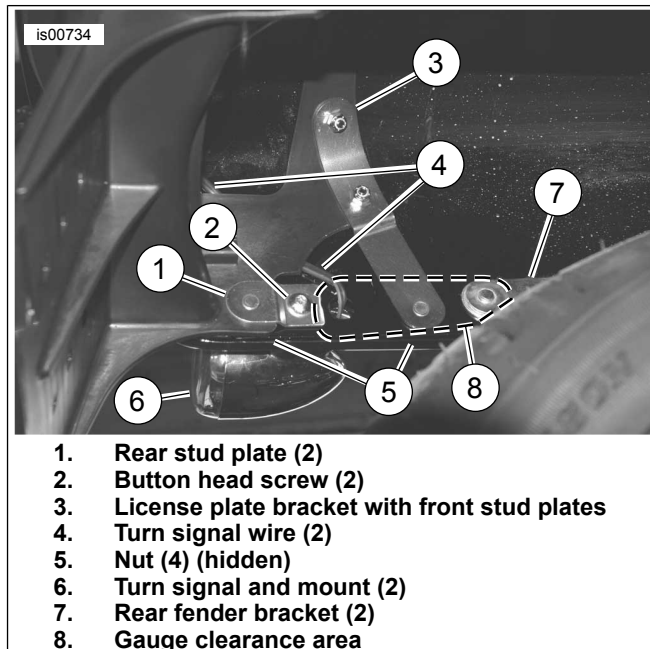
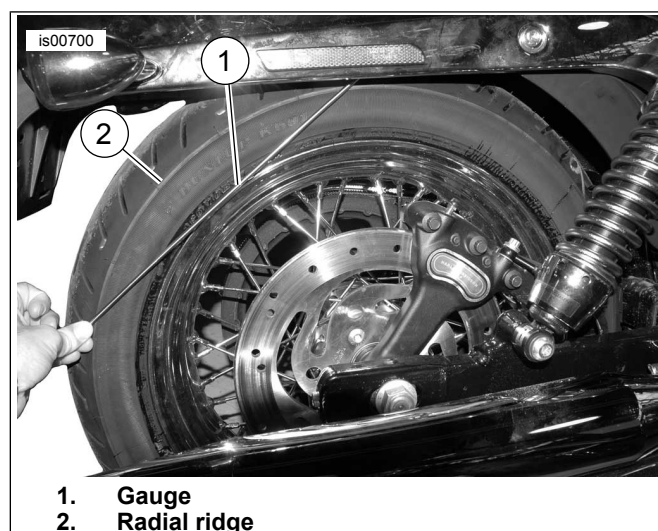

Figure 6. Install License Plate Bracket
Figure 7. Gauge Clearance
See Figure 6 for Steps 16-19.
21. See Figure 6. Tighten button head screw (2) to 19 N·m (14 ft-lbs). Repeat for opposite side.
4. See Figure 7. Lay gauge across the tire's radial ridge (2) and check that the gauge (1) can pass through the fender without touching (See Figure 6) any of the hardware or brackets in the gauge clearance area (8).
5. **If gauge passes gauge clearance area (8),** proceed to the Return Motorcycle to Service section below. **If gauge contacts gauge clearance area (8),** perform the Horizontal Adjustment procedure below.